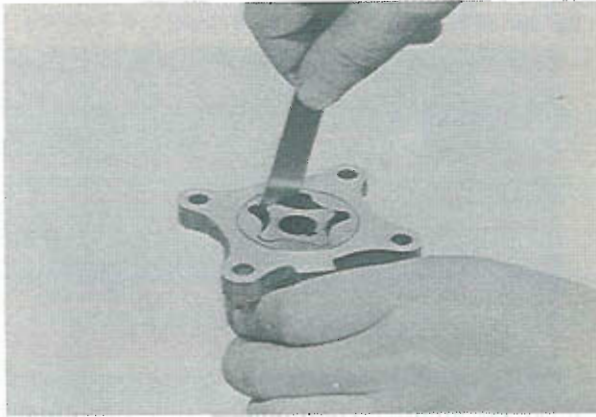

Fig. 2-3 Checking clearance between rotors
1. Check the clearance between the lobes of the rotors with a feeler gauge, as shown in Fig. 2-3. The standard clearance should be 0.01 ~ 0.09 mm (0.0004 ~ 0.0035 in). If the clearance exceeds 0.15 mm (0.006 in), replace both rotors.